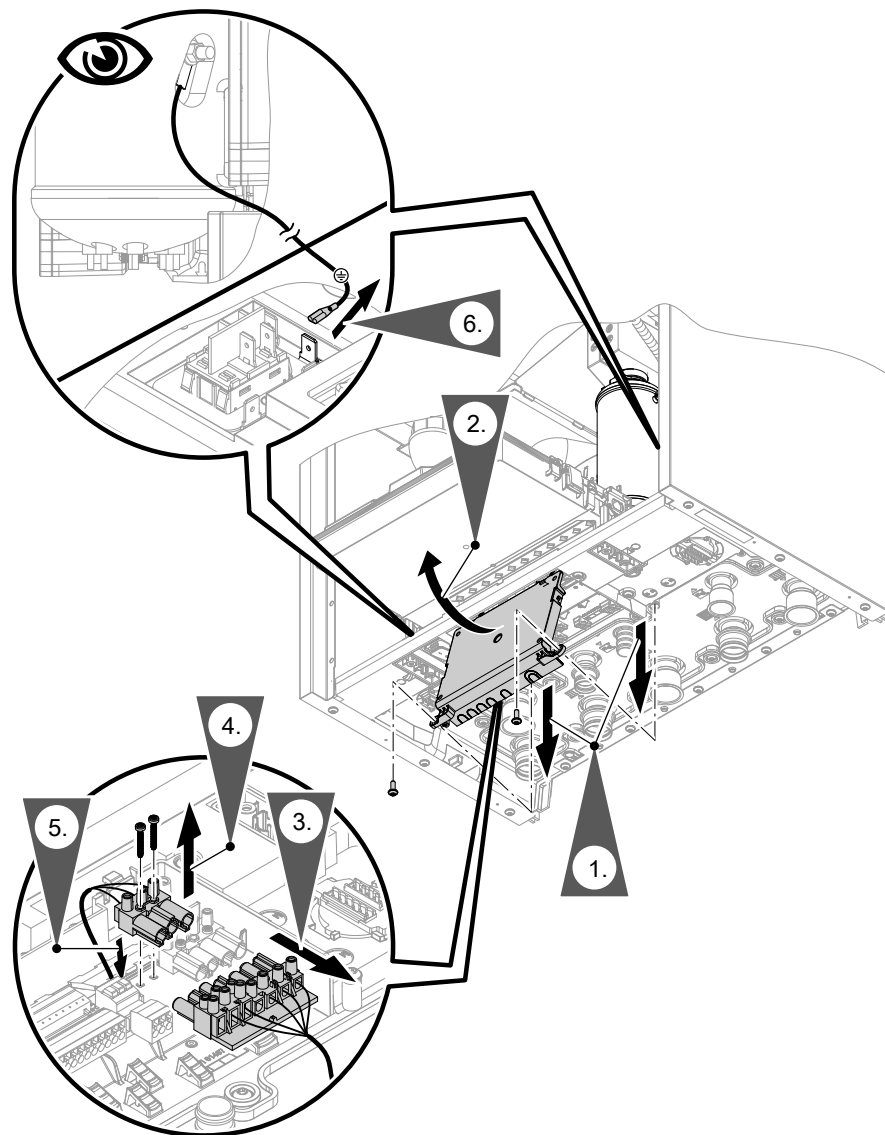

Fig. 91
- Power cable plug: See chapter "Instantaneous heating water heater power supply" and Fig. 91.